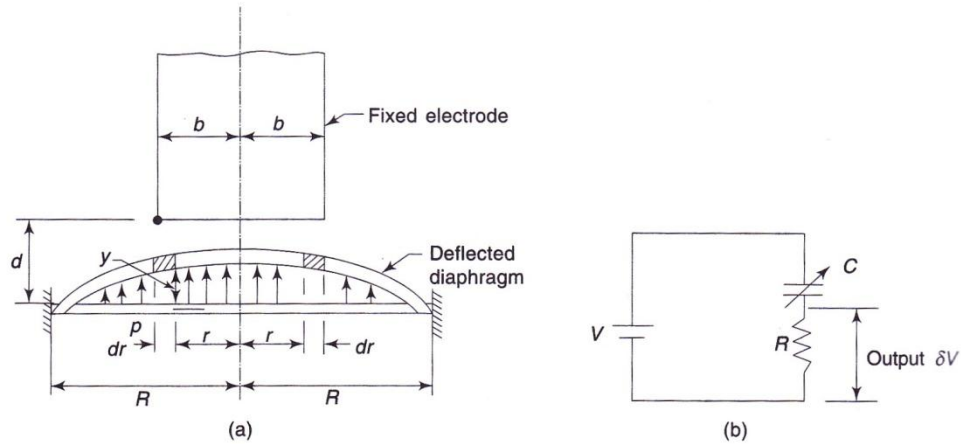

Figure 5(c)
- (c) A variable capacitance pressure gauge has the following specifications: diameter of clamped diaphragm = 20 mm, diameter of fixed electrode = 15 mm, thickness of diaphragm = 1 mm, Young's Modulus E of diaphragm material = 2.07×10^5 N/mm², Poisson's ratio, $\nu = 0.3$, and initial air gap = 1 mm. The variable capacitance due to change of air gap, forms a part circuit of **Figure 5(c)**. Determine the sensitivity (V/pa) of the instrument, given $V = 12V$ and $R = 10^5\Omega$.